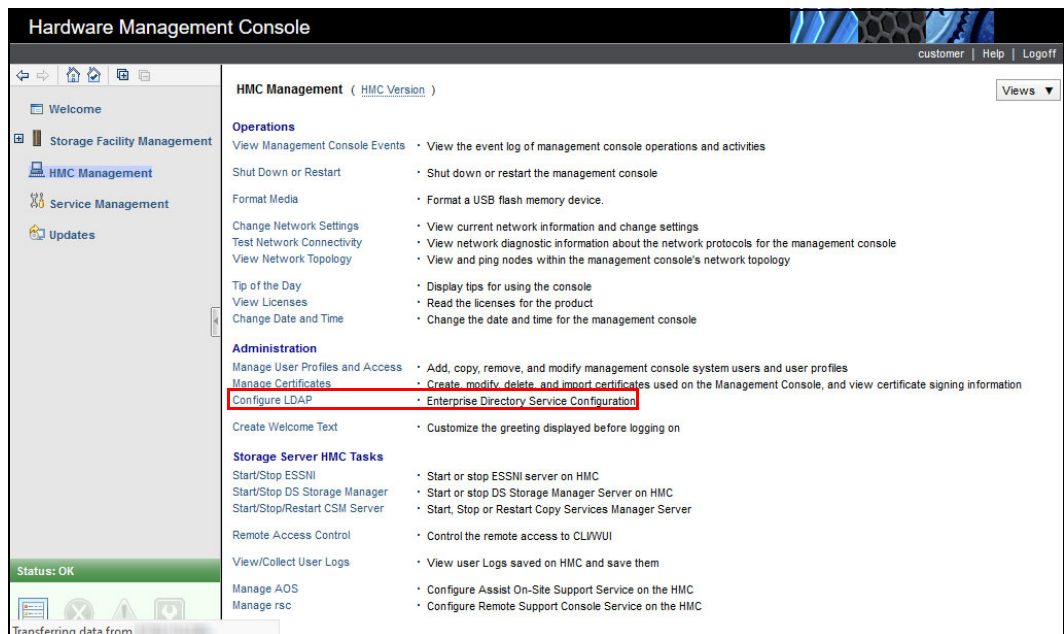

Figure 6-23 Configuring LDAP
1. In the HMC Management window, select **Configure LDAP**, as shown in Figure 6-23.